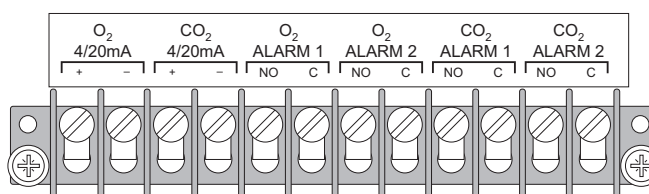

Figure 2 - Signal and alarm terminal strip
The analogue and alarm-relay output connections are shown in Figure 2. The factory default supplies the common (C) and normally open (NO) alarm relay contacts to the terminal strip.